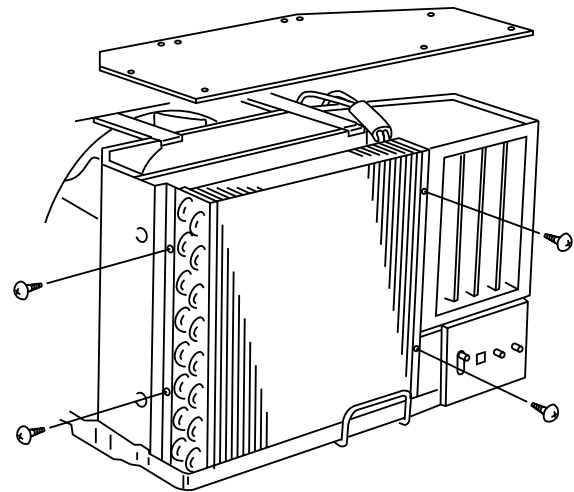

Fig. 23
- (1) Remove screws holding top plate of evaporator. (Fig. 23)
- (2) Remove top plate of evaporator. (Fig. 23)
- (3) Remove screws holding evaporator. (Fig. 23)
- (4) Grasp lower portion of the evaporator with both hands and tilt it slightly and lift it carefully from the drain pan so as not to distort the copper tube.